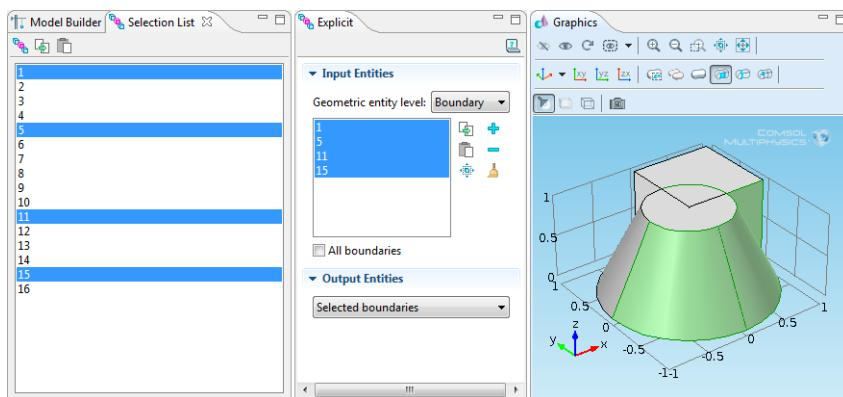
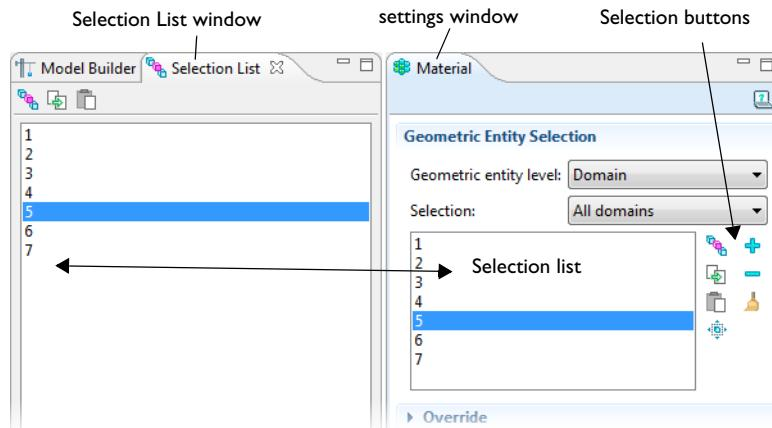

Figure 4-3: Using a combination of the Selection List and Selection window to choose boundaries on a 3D model.
Figure 4-4: Selection List window compared to the Selection list in the settings window.
Table 4-2 lists the buttons that display on every settings window that has a geometric entity selection list as displayed in Figure 4-4.
- When working in windows with Selection or Geometric Scope sections (a **Selection** window under a **Definitions** node (≡) for example), or anywhere you assign materials, physics, boundary conditions, and other model settings. The Selection List displays the specific *geometric entity level* selected (domain, boundary, edge, or point). See Figure 4-3.
Figure 4-4 shows the difference between a **Selection List** window (Selection List) and the selection lists that are found in the settings window for many nodes. Normally the list of selected entities is shorter in the settings window, which only shows the selected entities (boundaries in this case). See also Figure 4-3 above and Figure 4-6 in the